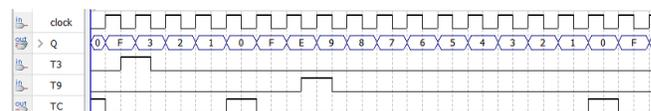

Figure 16. Timer simulation.
13. Create a waveform file and test the timer. Figure 16 shows the relation between T3/T9 triggers versus TC and counter values.